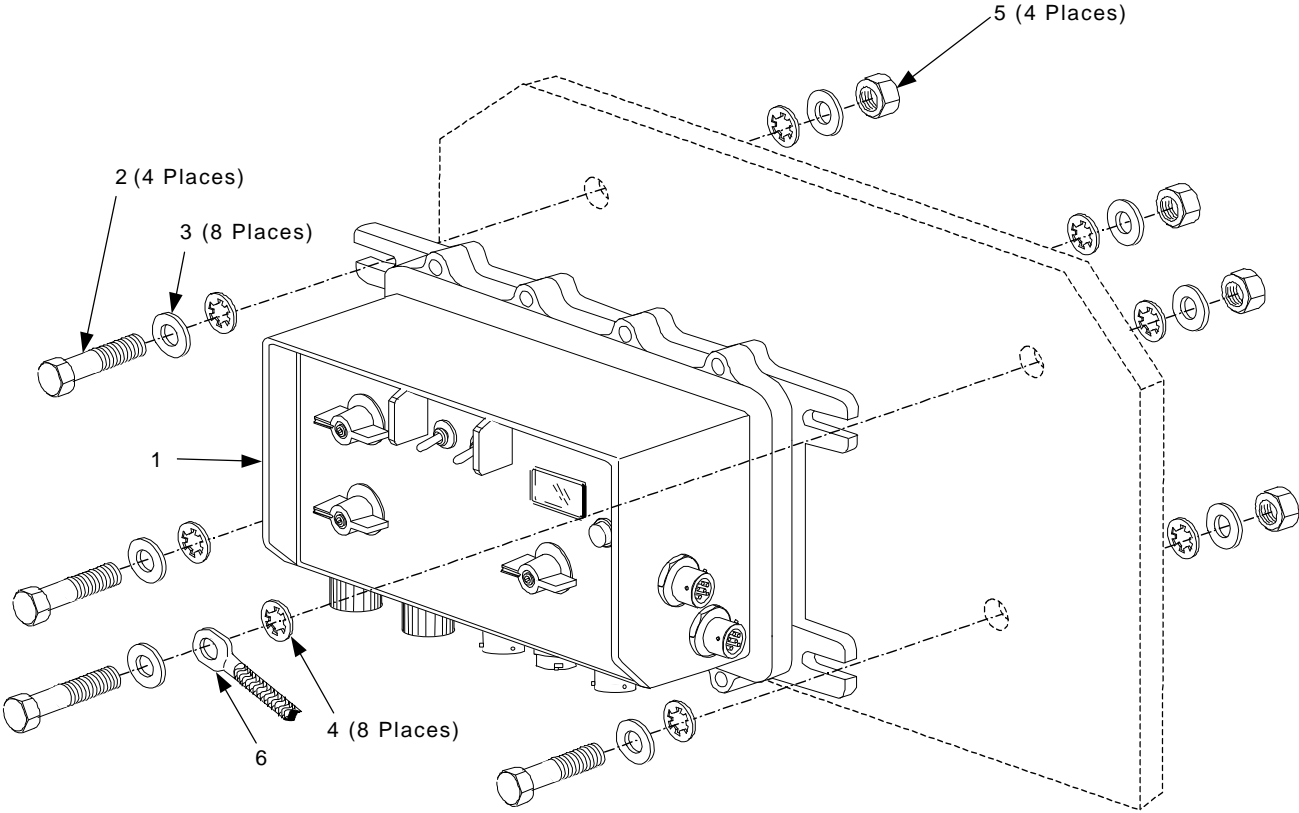

Figure 4-3. MCS Installation
- a. Install and secure the MCS to the existing bracket in the sequence(s) shown in Figure 4-3 using the parts listed in Table 4-1 and the following tools: